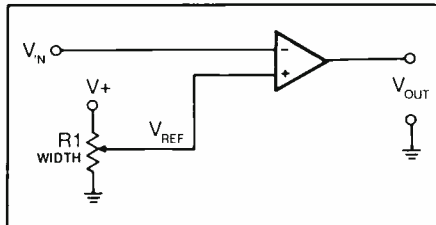
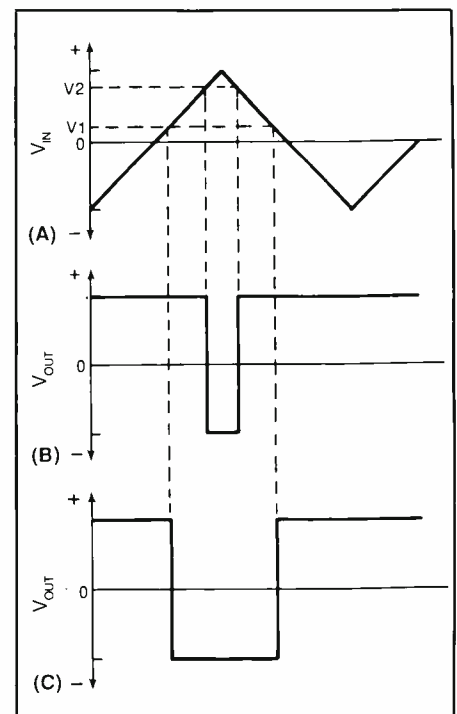

Fig. 2. A simple comparator circuit can be made from an ordinary operational amplifier run "wide open" with no feedback network.
Fig. 3. Waveforms from Fig. 2 circuit: (A) bipolar triangle input waveform and (B) output waveform when reference voltage is at  $V1$  level.
basically an amplifier that has too much gain and, thus, saturates with a very-low-amplitude input signal. An op amp that is run wide open with no feedback network is an example of how a comparator can be made, as shown in Fig. 2.
The gain of the Fig. 2 circuit arrangement is the open-loop gain of the op amp. The open-loop gain of the inexpensive and commonly available 741 op amp, for example, is 300,000. So for a maximum output of 10 volts, the input saturates at an input level of 10 volts/300,000, which is a minuscule 33 microvolts! The output of a comparator can be summed up as follows: (1) When  $V_{in}$
In Fig. 2, the comparator is shown wired so that a reference voltage is applied to the noninverting (+) input and the triangle waveform is applied to the inverting (-) input. Figure 3 shows the waveforms under two circumstances: (A) is the input waveform (a bipolar triangle waveform), and (B) is the output waveform when the reference voltage is at  $V1$ . In this case, the threshold is not tripped until near the peak of the triangle; so the output is low for only a short period of time. When the reference voltage is adjusted to the  $V2$  level, however, the triangle waveform is greater in amplitude than the reference potential for a longer time. The result is a wider output pulse.